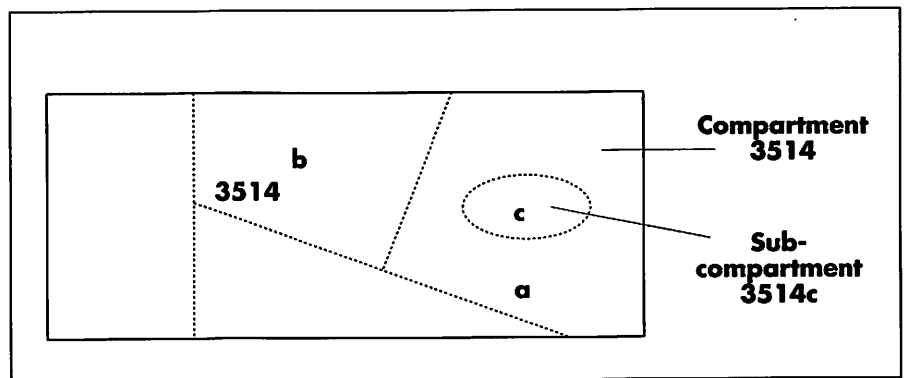

Fig. 1 Diagram showing the compartment and sub-compartment structure of stock maps.
- i. The core of forest information is the sub-compartment database (held on computer) and stock maps (digitally captured and distributed to Districts as paper copies). When used in conjunction, these represent a set of information about site and trees that is consistent across the whole country (*Table 1 and Figure 1*).